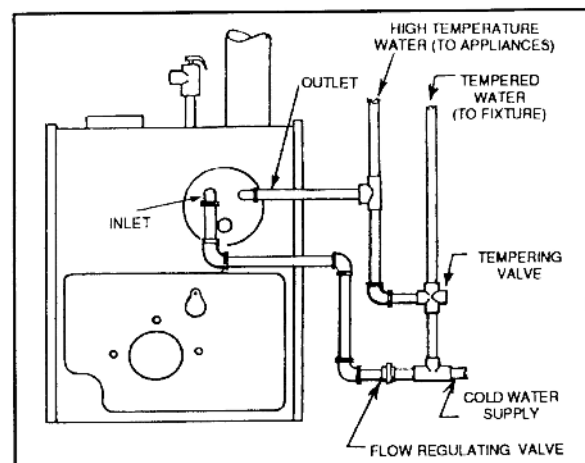

Figure 8. Recommended Piping to Tankless Heater
- II. Pipe the built-in tankless heater using the inlet and outlet tapings indicated on the heater (figure 8).